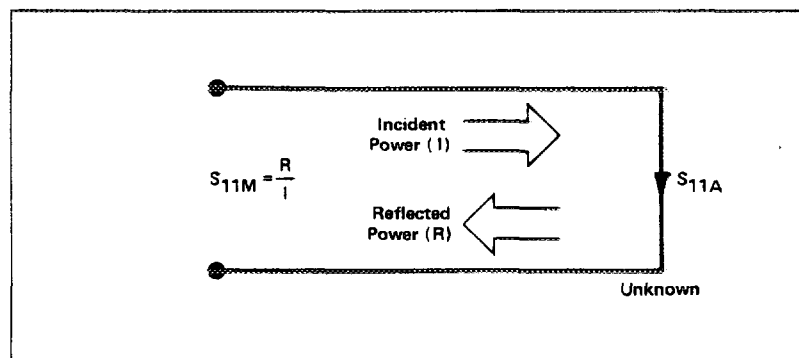

Figure A5-2
The reflection coefficient is measured by first separating the incident signal (I) from the reflected signal (R), then taking the ratio of the two values (Figure A5-2). Ideally, (R) consists only of the signal reflected by the test device ( $S_{11A}$ ).